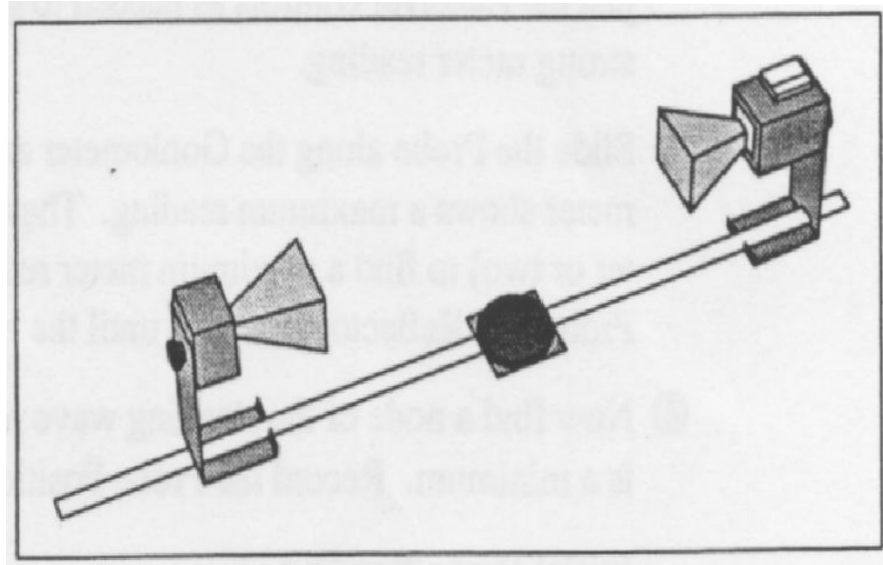

Figure 2: Transmitter and receiver units setup on the goniometer.
1. Place the transmitter and receiver on the *goniometer* (the hinged ruler) with the **transmitter on the fixed arm**, see Figure 2. Set the distance between the transmitter and receiver at **40cm**. Turn on the transmitter and receiver, and set the receiver controls to show a near full scale deflection. Increase the separation from 40 to 80 cm and record the meter reading in 5 cm increments.